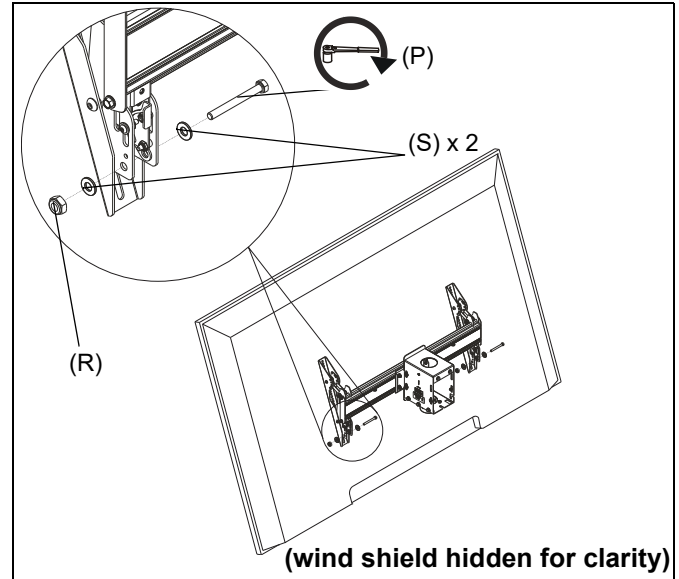

Figure 25
1. Use 5/16-18 x 2" hex head carriage bolt (P), 5/16-18 hex nut (R) and two 5/16" washers (S) to lock each interface bracket latch in place. (See Figure 25)